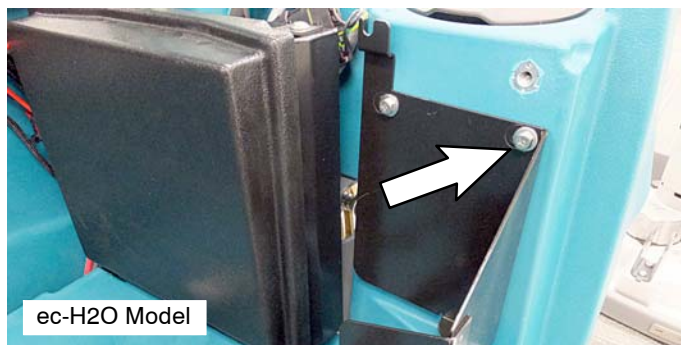

FIG. 21
24. If model is equipped with ec-H2O remove the following screw from module bracket (FIG. 21)